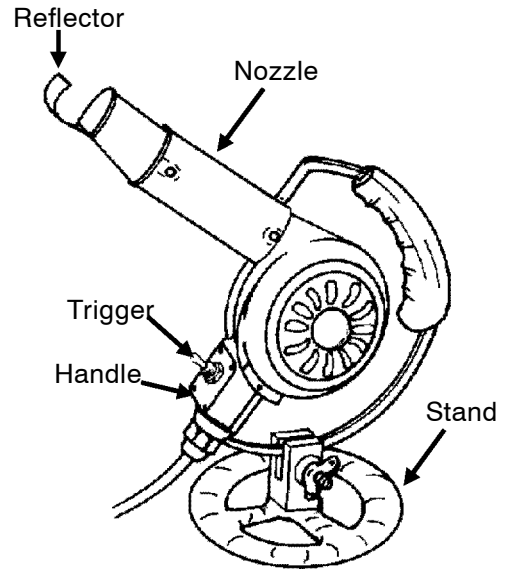

Figure 6. ThermoGun Mark II Heating Tool, CV-5000 with Stand
19. ThermoGun Mark II heating tool, CV-5000 (Figure 6), is a rugged stand mounted or hand held hot-air tool engineered with a turbo fan driven blower and double jacketed element housing for heavy duty use. Combining features and options such as adjustable side vents, a wide variety of reflectors, and two temperature ranges (determined by model selected). ThermoGun provides precise control when terminating abroad range of heat shrinkable products, including boots and tubing up to 3 inches in diameter. Specifications are listed in Table 3.
20. **PRE-OPERATION.** Prior to using heating tool (Figure 6), Proceed as follows:
22. **OPERATION.** To operate heating tool (Figure 6), proceed as follows:
23 . POST-OPERATION. After using heating tool (Figure 6), proceed as follows: